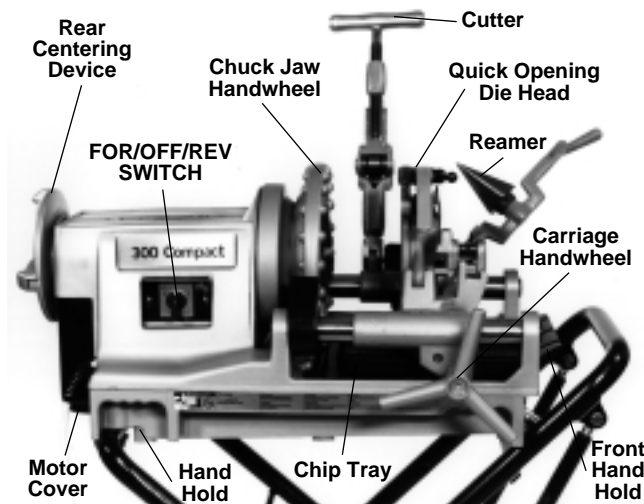

Figure 6 – No. 300 Compact Threading Machine
1. Make sure Threading Machine is unplugged and the directional switch is set to the OFF position (Figure 6).